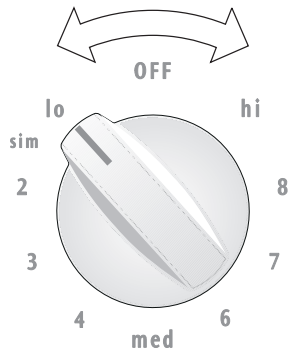

Fig. 1
2. Push in & turn the surface control knob in either direction to the desired setting (See Fig. 1). Start most cooking operations on a higher setting & then turn to a lower setting to finish cooking. The surface control knobs do not have to be set exactly on a particular mark. Use the marks as a guide & adjust the control knob as needed. Each surface element provides a constant amount of heat at each setting. A glowing red surface heating area extending beyond the bottom edge of the cookware indicates the cookware is **too small** for the surface heating area.